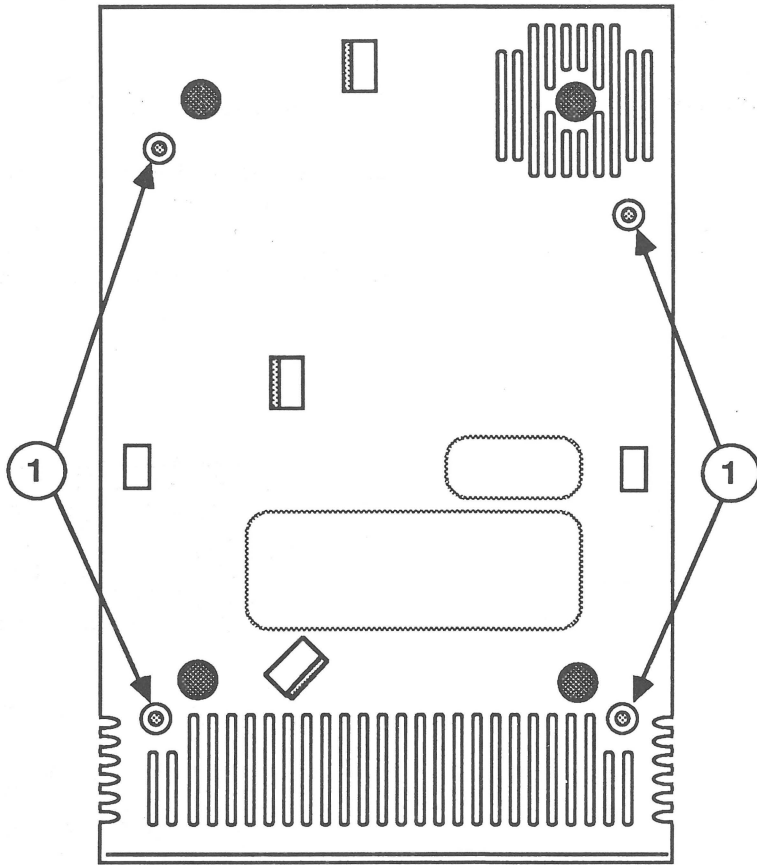

FIGURE 1
4. Remove the four Phillips screws (Figure 1, #1).
4. Replace the four Phillips screws (Figure 1, #1).